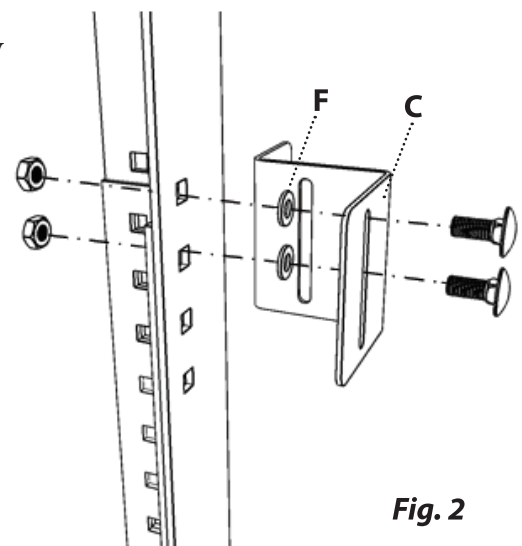

Fig. 2
Step 2. Install the Z-brackets onto each leg of your Heavy Duty Tool Stand. (See Fig. 2)
Use the carriage bolts and lock nuts included with the stand to attach the Z-brackets (C). Use 4 nylon washers (F) on each bracket between the bracket itself and the stands leg to allow smooth adjustment. Leave hardware hand tight. Be sure to install the mounting bolts through the top two holes in the stands upper leg section as shown in Fig. 2 or the extension table will not sit parallel with the router table tip.